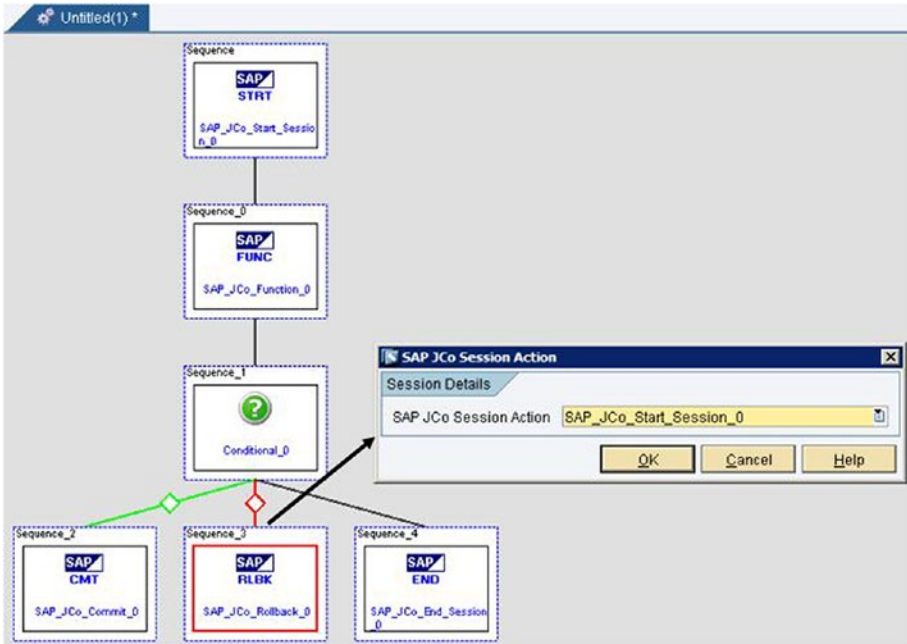

Figure 7-173. SAP JCo Rollback action block and its configuration
- *SAP JCo Rollback*: This action is to roll back a function during a session between SAP MII and SAP ERP Central Component (SAP ECC). See Figure 7-173.